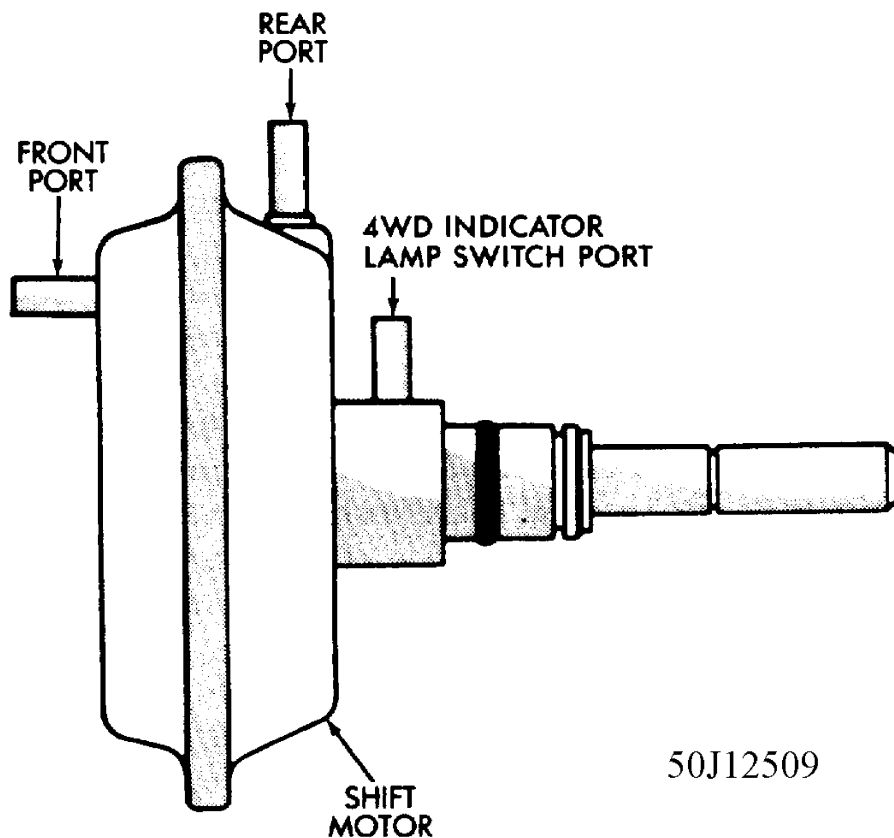

Fig. 2: Axle Vacuum Shift Motor
1) Raise vehicle. Disconnect vacuum harness from axle shift motor and connect a vacuum pump to vacuum shift motor port. See Fig. 2.
4) Disconnect vacuum pump from vacuum shift motor front port. See Fig. 2. Connect vacuum pump to vacuum shift motor rear port, cap port for indicator lamp sw., and apply 15 in. Hg (51 kPa) of vacuum to rear port.